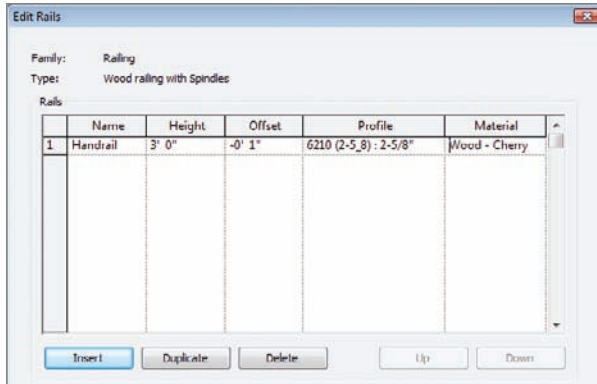

FIGURE 10.59 Changing the rail. Note that you can add as many rails as you wish. In this case, we are adding only one.
8. In the Rails chart, change Name to Handrail, as shown in Figure 10.59.
10. Change Material to Wood - Cherry by clicking on the [...] button and browsing for the material (see Figure 10.59).